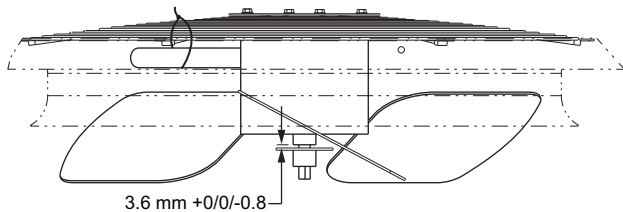

Fig. 27 — Outdoor Fan Blade Position
4. Adjust fan height as shown in Fig. 27.